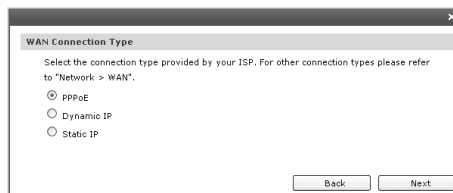

Figure 5-7 WAN Connection Type
6. Select the connection type provided by your ISP (Internet Service Provider) as the Figure 5-7 shows. Three popular types are provided here. For other connection types, please refer to the **Network→WAN**.